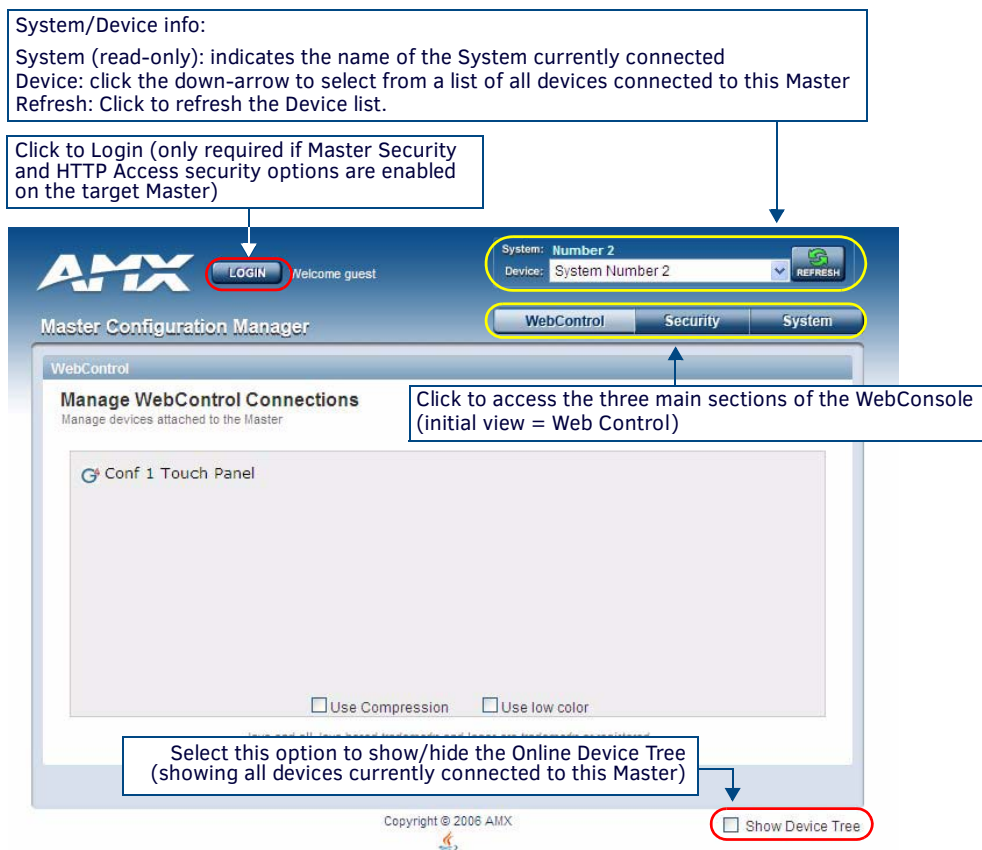

FIG. 33 Master Configuration Manager - Web Control Page (initial view)
NetLinx Masters have a built-in WebConsole that allows you to make various configuration settings via a web browser on any PC that has access to the Master. The webconsole consists of a series of web pages that are collectively called the "Master Configuration Manager" (FIG. 33).
2. Press Enter to access WebConsole for that Master. The initial view is the *Web Control* page (FIG. 33).